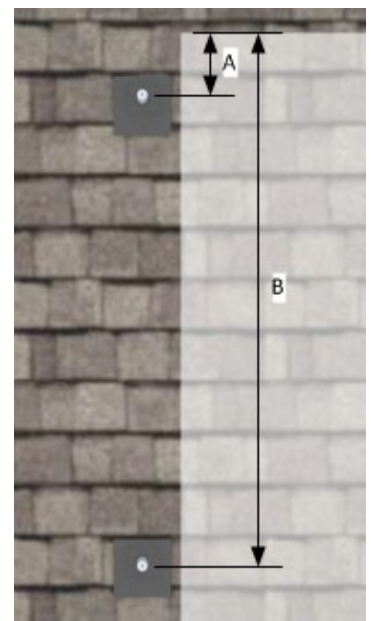

Fig. 2.2
2. Refer to the SE_0214 document for information on crucial installation distances. Once the model of collector is known mark off the height dimension (distance top to bottom of collector) on roof. Using the top of the collector as a base line, measure down distance A and mark off the area for the first base plate. Repeat this process for distance B. See figure 2.1 & 2.2. Using a chalk line will help ensure that all equipment is properly aligned, both vertically and horizontally. The white area in figure 2.2 represents the collector, and the full assembly is shown for clarity. Distance A and B vary depending on collector being used. The area marked at distance A is the position of first base plate on the mounting surface. This base plate will be the upper left most base pate. Next make sure that there is adequate amounts of room to the right to allow for all the solar thermal panels in the array. Measure down to ensure the proper spacing for each row of collectors. Once roof spacing is confirmed use a level and a chalk line to mark all mounting points that fall on distance A. Repeat for distance B. Ensure all chalk lines are level. Mark where the rafters lay on the chalk lines with chalk. This will help with the next step in the installation. Refer to local building and safety codes for recommended distances from edge or peak of roof when installing roof mounted equipment.